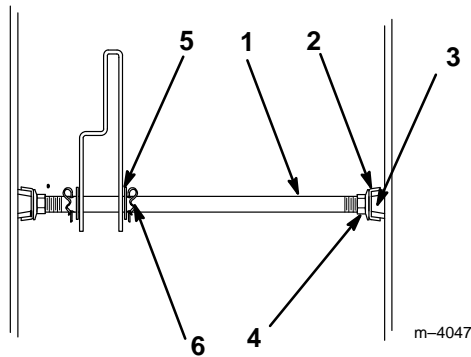

Figure 2
3. Loosen flange nuts on deck lever pivot rod. Tap pivot loose from mounting position (Fig. 2).
4. Remove pivot rod, pivot rod clamps, flange nuts, washers, hairpins and wedge nuts. Discard all pieces except the flange nuts, washers, and hairpins (Fig 2).